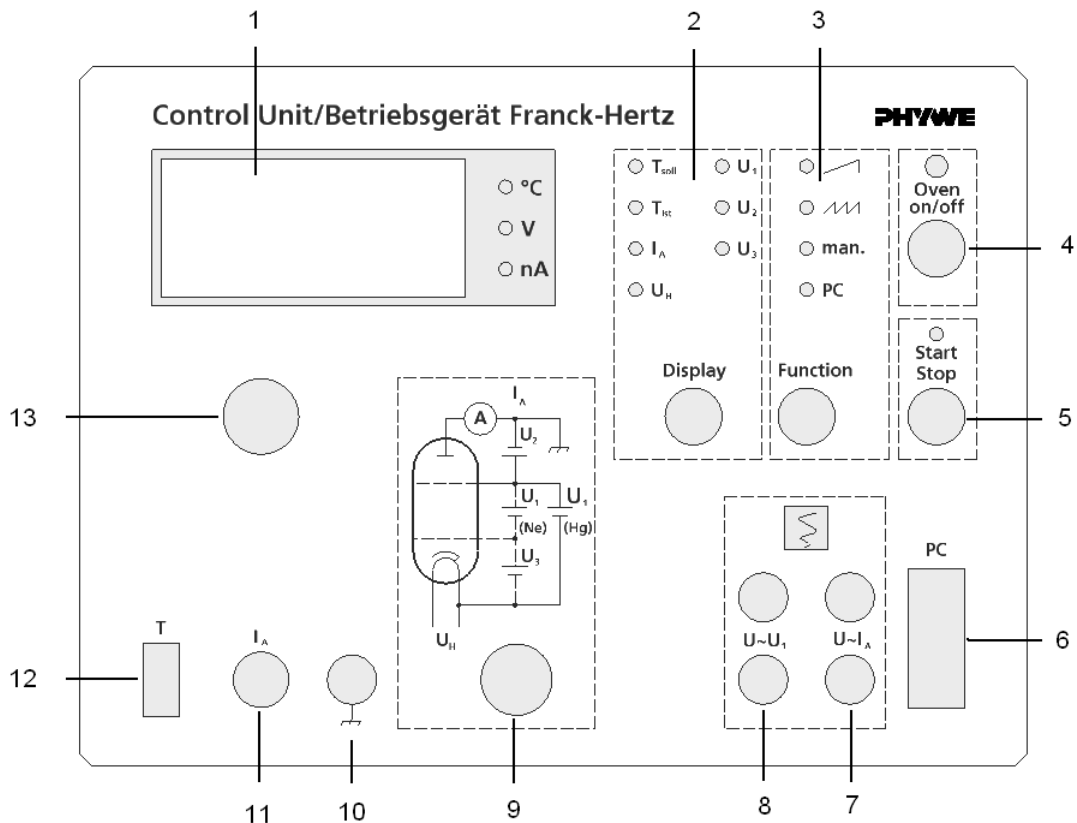

Fig. 2: Function and operating elements of Franck-Hertz Control Unit.
3.1 Function and operating elements (see Fig. 2)
- 7 Pair of 4 mm sockets "U~IA" Analog output (Y): Voltage proportional to the anode current.
- 8 Pair of 4 mm sockets "U~U1" Analog output (X): Voltage proportional to the accelerating voltage U_1 .